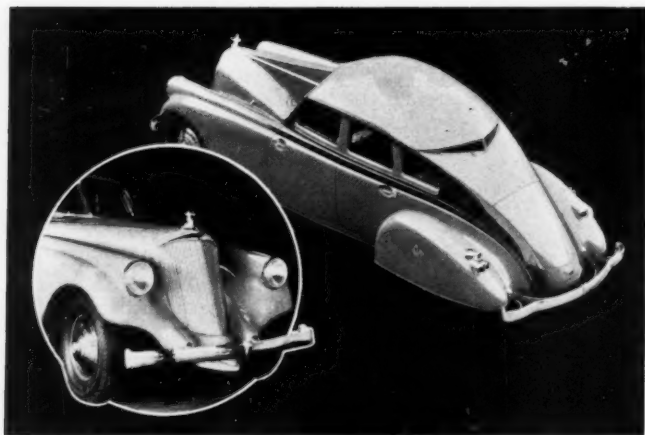

Fig. 5—Possibilities of streamlining are sensationally disclosed by this ultra-modern automobile designed by Pierce-Arrow engineers
**M**INIMUM resistance to passage through air, freedom from protuberances, and a clean graceful appearance are three of the characteristics which mark a streamlined vehicle. These objectives in design continue to find wider acceptance among automobile manufacturers. Pierce-Arrow has won the attention of the public eye with its Silver Arrow, Fig. 5. This example alone bears out the broad possibilities of the new mode to which MACHINE DESIGN has pointed many times in the past as one of the most progressive steps ever made in automotive refinement.